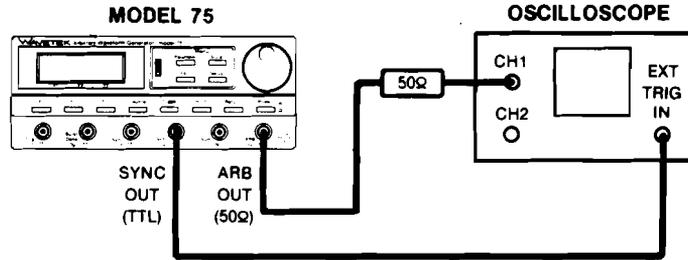

Figure 5-2. Amplitude Verification Equipment Connection
1. Interconnect the Model 75 and test equipment as shown in figure 5-2.